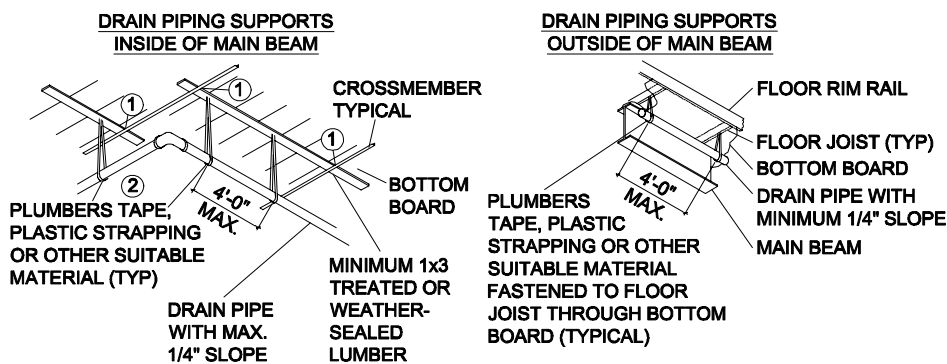

Figure 50. DWV pipe support options
- 5. Install supports.** Install permanent drain line supports at a distance of four feet o.c. or less (see **Figure 50**). Alternate DWV pipe support may be used if approved by the local authority having jurisdiction.